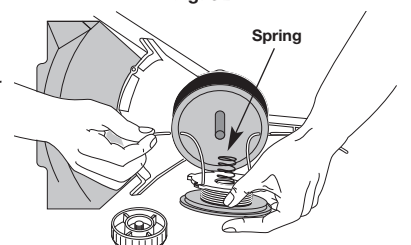

Fig. 33
13. Insert the ends of the line through the eyelets in the outer spool and place inner reel with spring inside the outer spool (Fig. 33). Push the inner reel and outer spool together. While holding the inner reel and outer spool, grasp the ends and pull firmly to release the line from the holding slots in the reel.
5. Insert the ends of the line through the eyelets in the outer spool (Fig. 33).